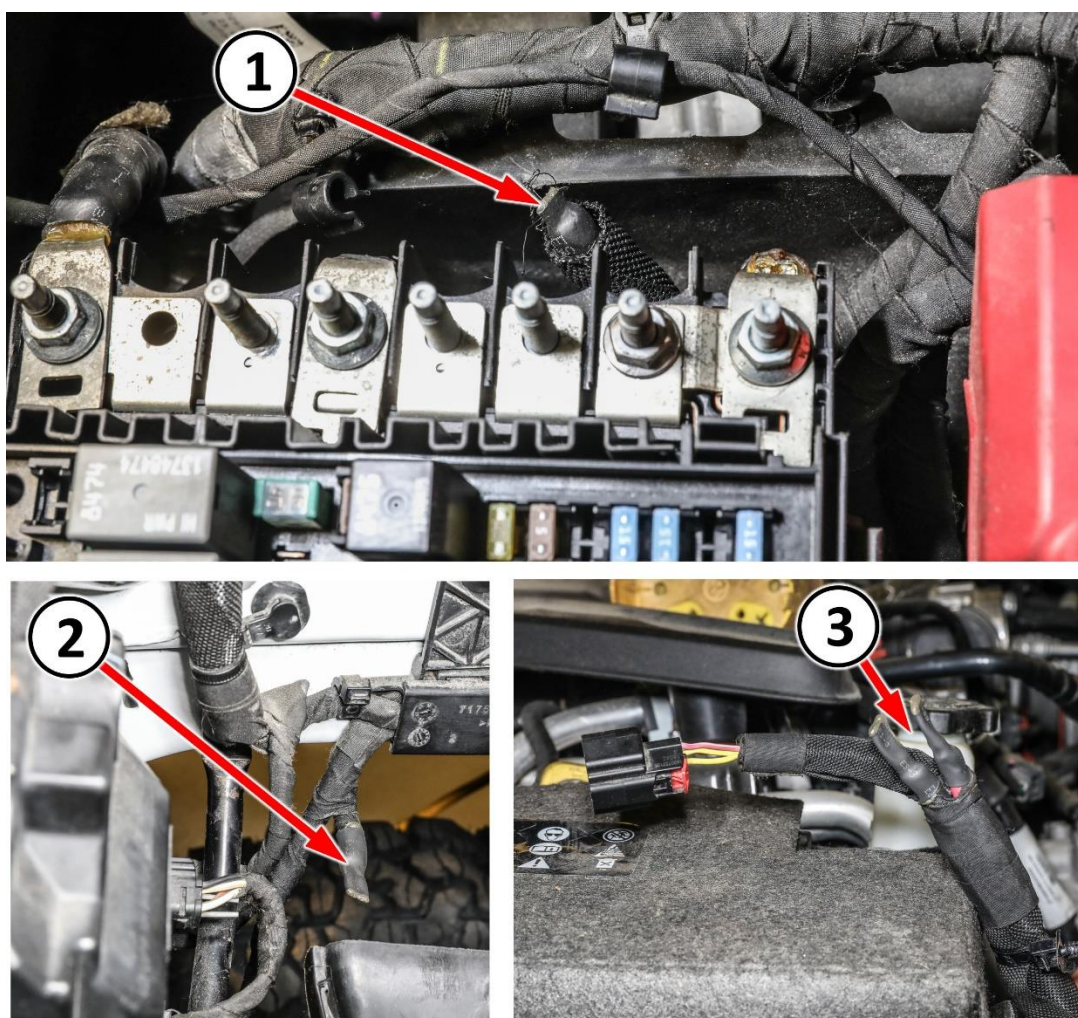

Figure A13 – Seal Exposed Ends of Cut EHPS Wires
40. Use locally sourced heat shrink tubing to seal the exposed end where EHPS power supply eyelet D6630J was removed (Figure A13).
41. Use locally sourced heat shrink tubing to seal the exposed end where EHPS ground eyelet G908A was removed (Figure A13).
42. Use locally sourced heat shrink tubing to seal the exposed ends where EHPS connector D2704A was removed (Figure A13).